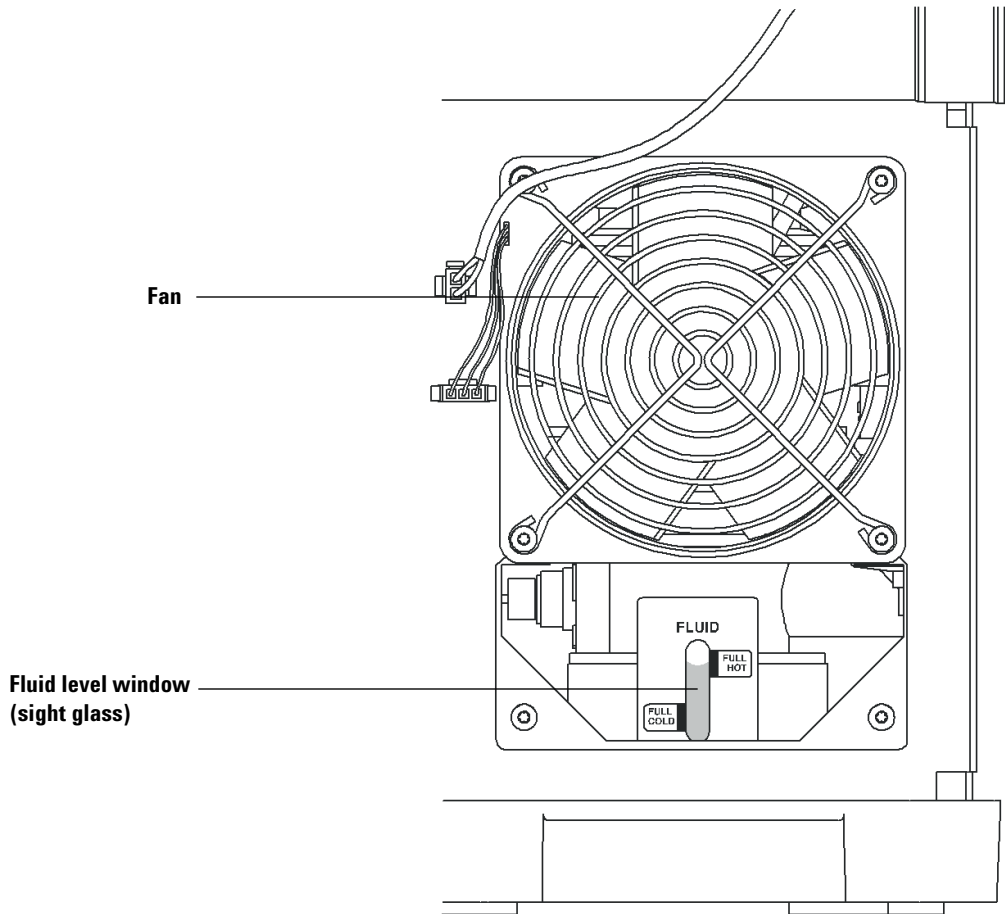

Figure 8 Diffusion pump
- 4 Check the diffusion pump fluid level. See Figure 8.